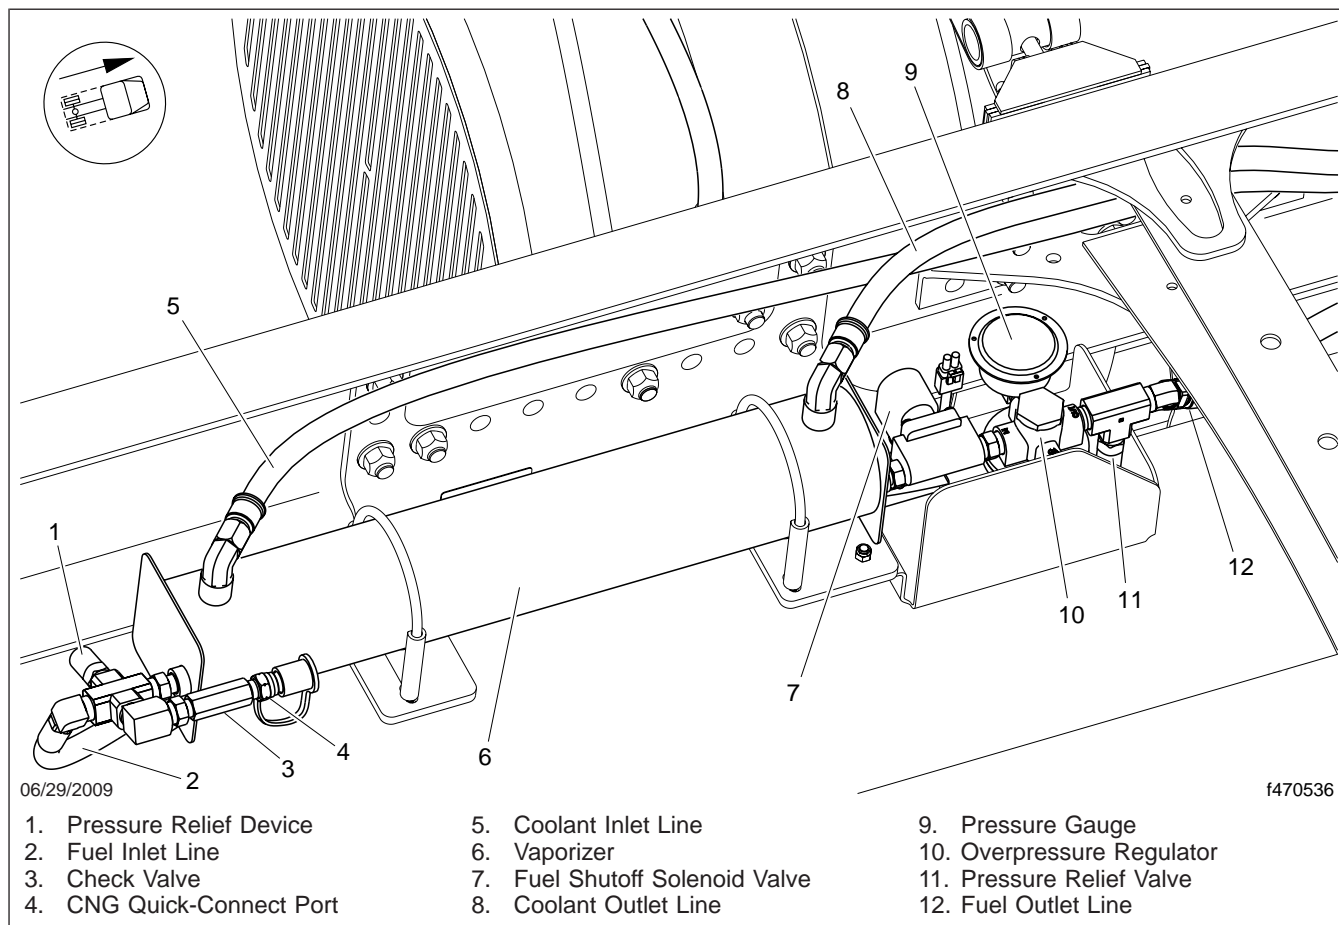

Fig. 11.10, LNG Vaporizer Assembly
8. Inspect the LNG vaporizer for signs of damage or leaks. See Fig. 11.10. Inspect the vaporizer mounting brackets for signs of looseness.